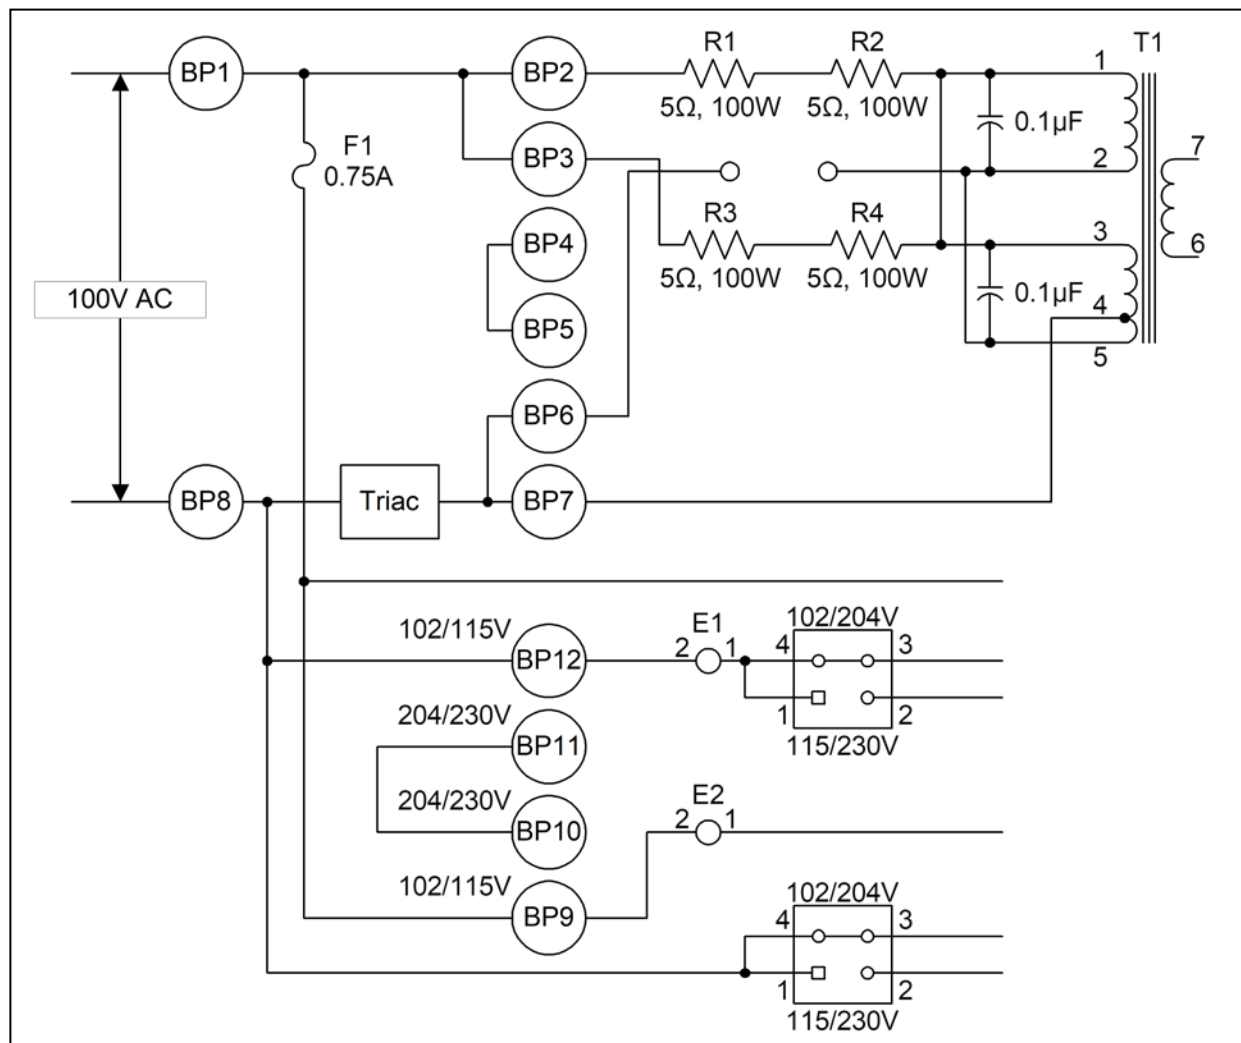

Figure 7-2. 100 VAC Line Voltage Configuration
- 3 Select the schematic of the primary circuit for the required voltage, figures 7-2 through 7-5. Check the connections and reconfigure the following components:
- Misconnected charging transformer. Refer to figures 7-2 through 7-5, as appropriate to the input line voltage.